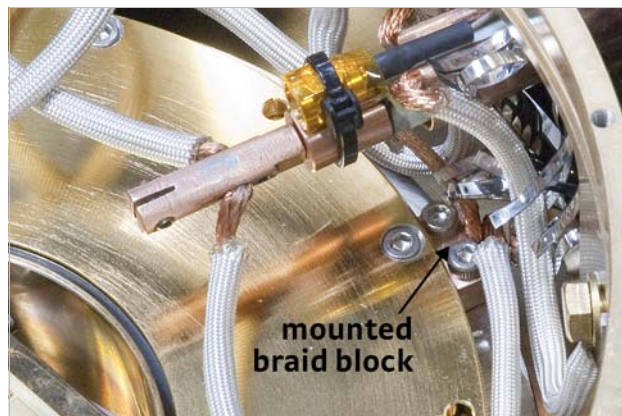

FIGURE 3-21 Braid block mounting holes
- a. Using the x-axis hand dial and y-axis micrometer, move the probe arm to expose the braid block mounting holes in the CPX-VF magnet stage (FIGURE 3-21).
- c. Using the 2.5 mm hex driver, attach the braid block to the CPX-VF magnet stage with the two M3 captive screws (see FIGURE 3-21 for an image of the mounted braid block).
3. Using the 2.5 mm hex driver, loosen the two captive screws on the braid block (FIGURE 3-21).
- b. Using tweezers or your fingers, position the braid block over the mounting holes (FIGURE 3-21).